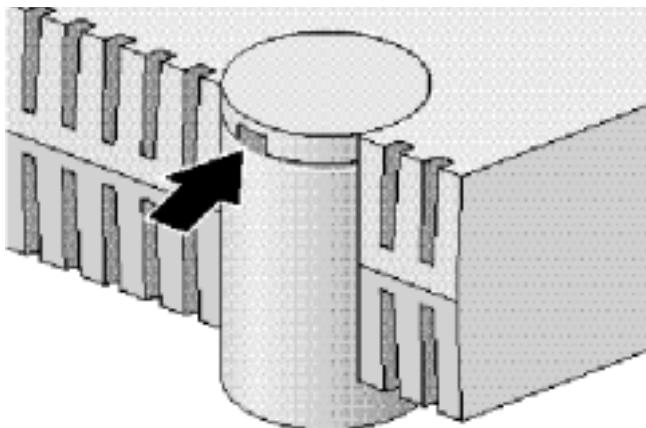

Figure 4 Interlock Cap
4. Pry off the interlock cap at each corner of the unit. Refer to Figure 4. From the side of the unit, insert the tip of a small straight-slot screwdriver into the opening of the interlock cap. Press down on the screwdriver to pry the cap off.